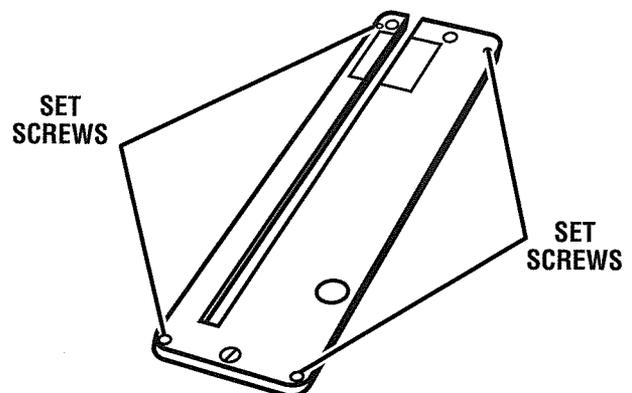

Fig. 24
See Figure 24.
- Using a 3/32 hex key, adjust the four set screws as shown in figure 24.